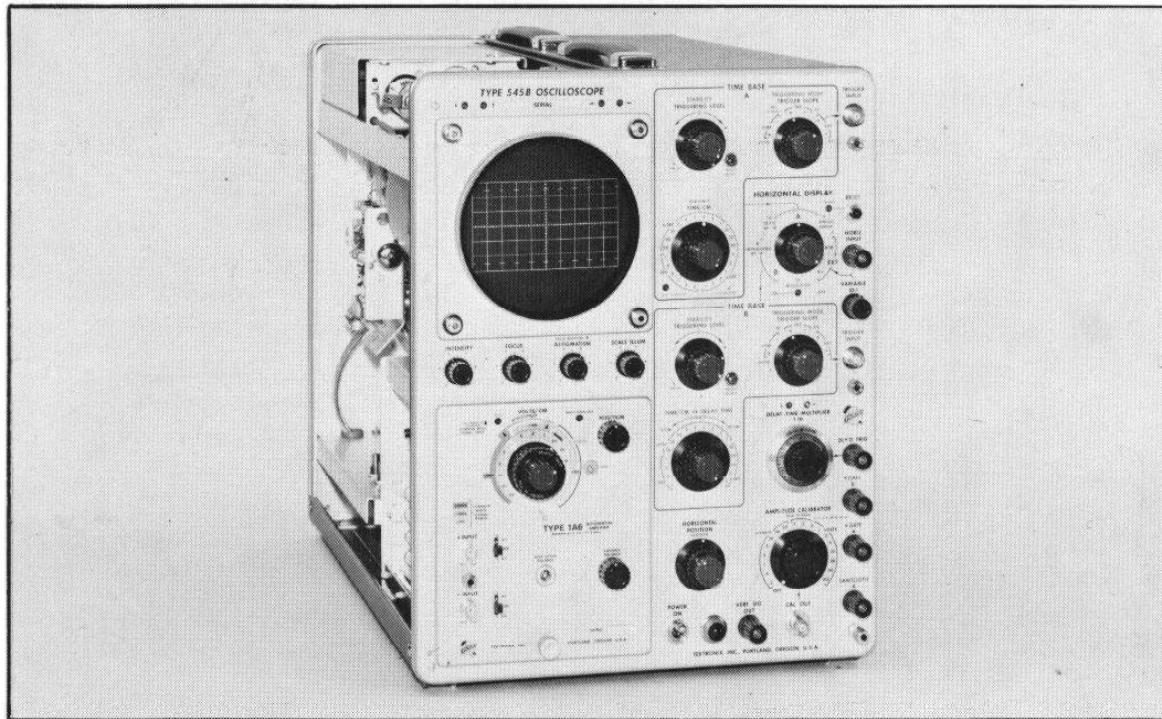

Fig. 6-3. Equipment setup for steps 1 through 4.
1. Adjust R110 (V114 and V214 heater balance) ①
- a. Equipment setup is shown in Fig. 6-3.
2. Adjust Step Attenuator Balance (R155-R255) and VARIABLE BALANCE controls ①